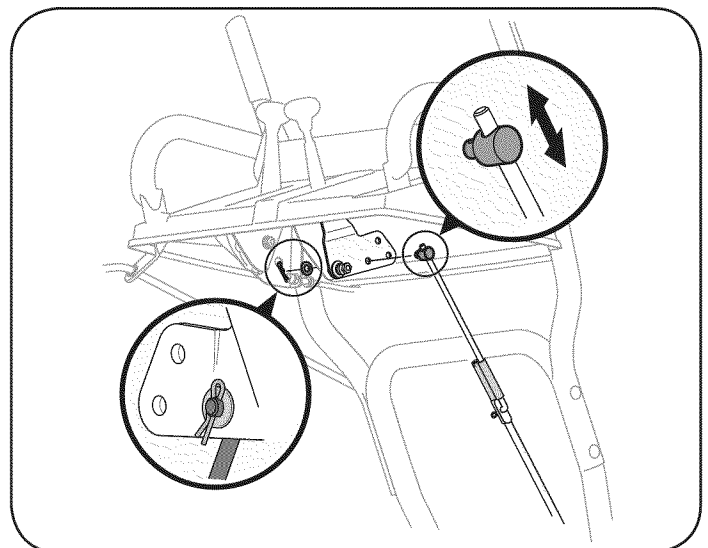

Figure 20
If the full range of speeds (forward and reverse) cannot be achieved, refer to Figure 20 to the left and adjust the shift rod as follows:
1. Looking underneath the handle panel, note which of the three holes in the shift lever the ferrule is inserted into. Also note the direction of insertion. Then remove the internal cotter pin and flat washer from the ferrule and withdraw the ferrule from the shift lever. See Figure 20.
2. Place shift lever in sixth (6) position or fastest forward speed.
4. As necessary, rotate the ferrule up or down the shift rod until the ferrule lines up with the hole from which it was earlier removed. See Figure 20.